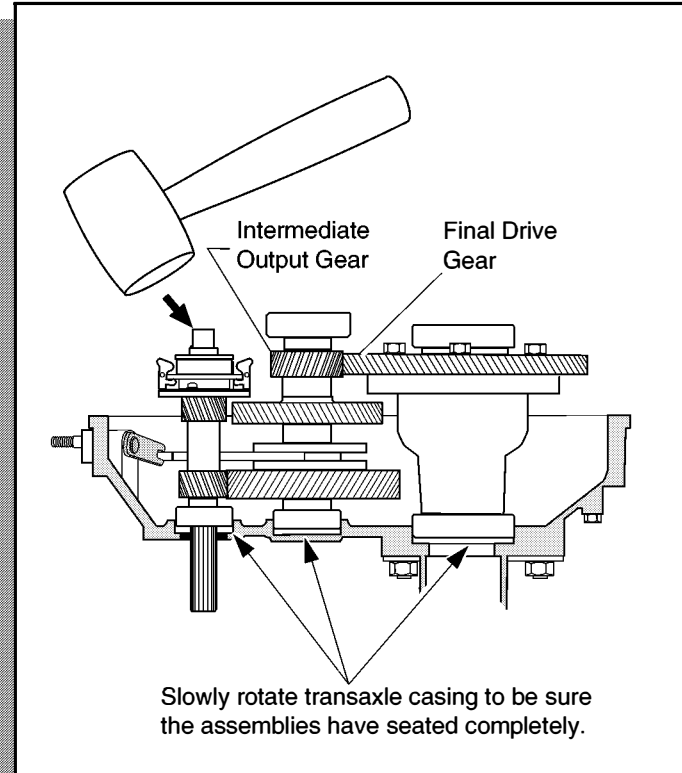

Fig. C-18 Differential Carrier Installation
4. Place the differential carrier assembly in the casing (Ref Fig. C-18 on page C-7).
## 5. Seat all of the assemblies in the casing (Ref Fig. C-18 on page C-7).